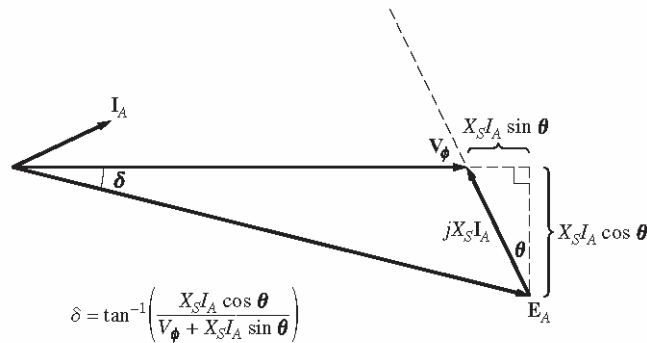

FIGURE P5-2
- 5-9.** Figure P5-2 shows a synchronous motor phasor diagram for a motor operating at a leading power factor with no R_A . For this motor, the torque angle is given by